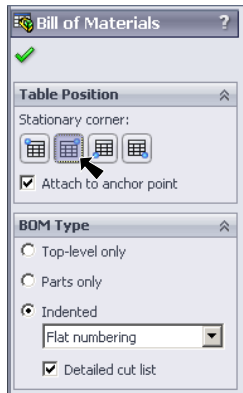

Fig. 8
Step 2. In the Bill of Material Property Manager set, under **Table Position** select **Top Right** , **Fig. 8** click OK .